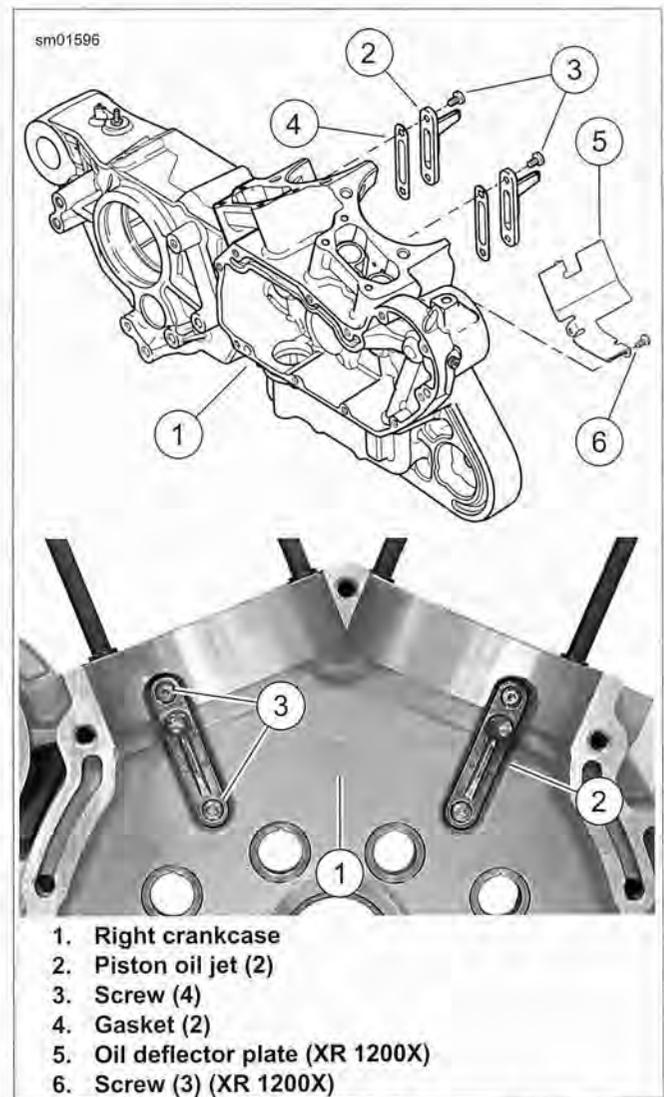

Figure 3-141. Piston Oil Jet Assemblies
- See Figure 3-141. Gasket (4) is part of piston oil jet (2) assembly and is not sold separately.
- See Figure 3-141. With oil jet pointed upward, install **new** piston oil jet assemblies (2) with gaskets (4) in right crankcase.
- Apply LOCTITE 222 (purple) to threads of TORX screws (3) and screws (6).
- XR 1200X**: Install oil deflector plate (5) using three screws (6). Tighten screws to 25-35 **in-lbs** (2.8-3.9 Nm).